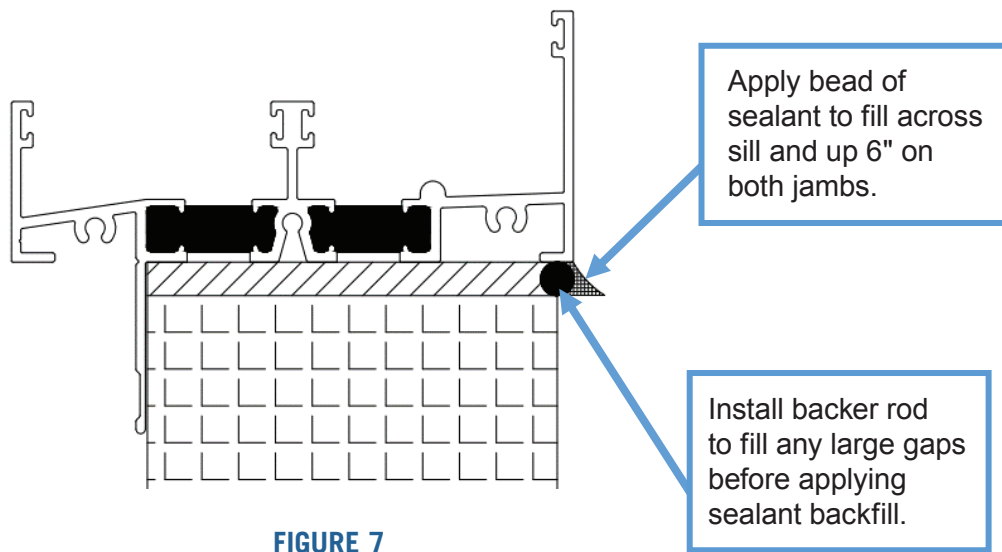

FIGURE 7
8. Seal interior of window as shown below in Figure 7.